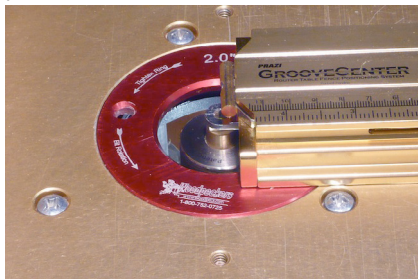

Fig. 1
4. Insert the GrooveCenter's Collet Pin into the collet (**fig. 1**).